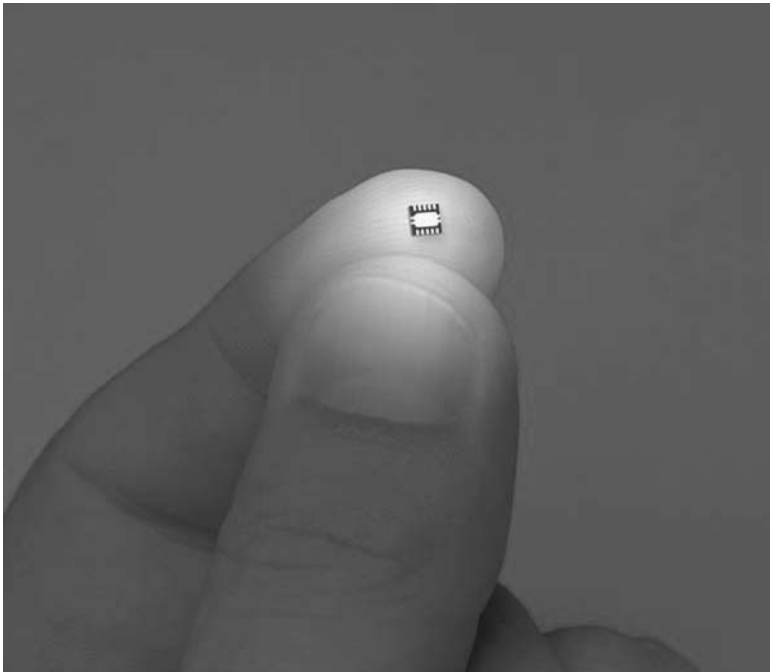

Figure 2.4: A complete MCU uses, to a first approximation, exactly zero PCB space (Photo courtesy of Silabs)
- An additional processor need not eat much board space (see Figure 2.4).